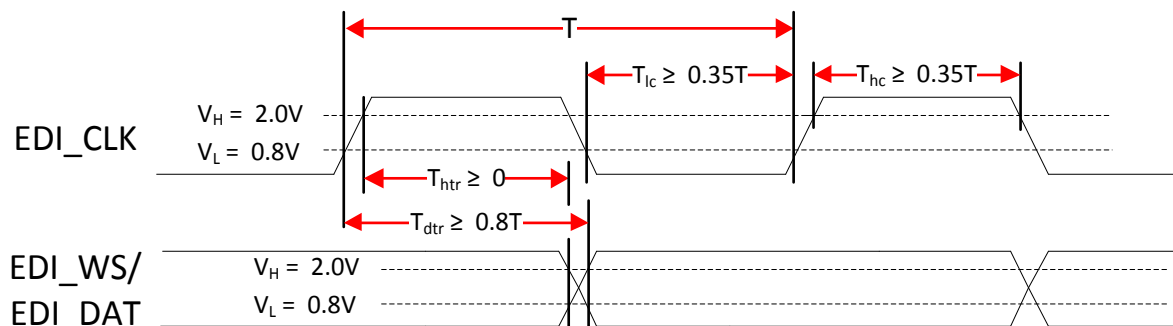

Figure 8-5. I2S master interface timing diagram
The operating characteristics of the I2S master controller at typical temperature (25°C) are shown in Figure 8-5 and Table 8.3-3. Example: I2S master transmitter with data rate of 0.512MHz (±10%) (0.512MHz = 16KHz x 32 , Audio Sampling Rate x Sample Bits).
(1)  $C_b$  = total capacitance of one bus line in pF. If mixed with high-speed mode devices, faster fall-times according to Figure 8-5 are allowed.